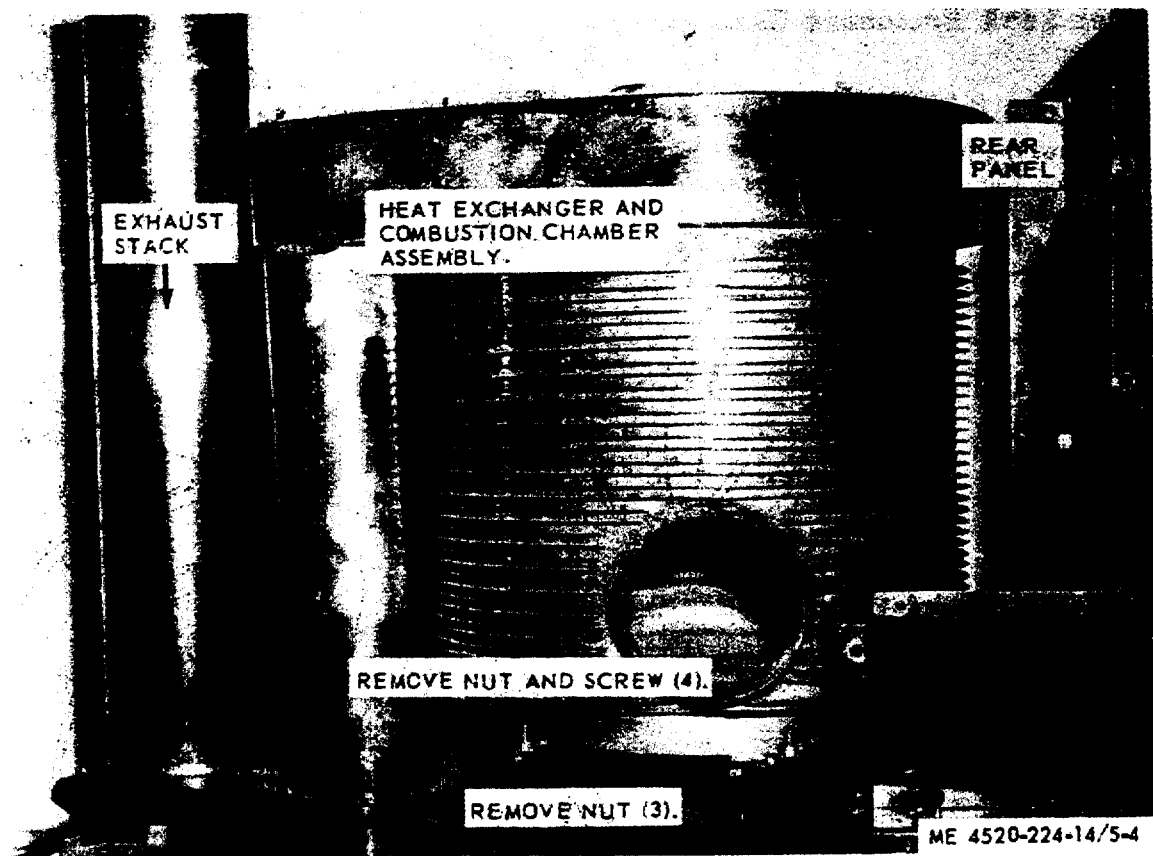

Figure 5-4. Combustion chamber, removal and installation.
- (1) Remove the cabinet, paragraph 4-34.
- (2) Refer to figure 5-4 and remove the combustion chamber assembly.
- (1) Refer to figure 5-4 and install the combustion chamber assembly.
- (2) Install the cabinet.